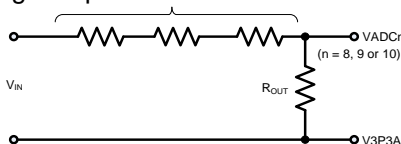
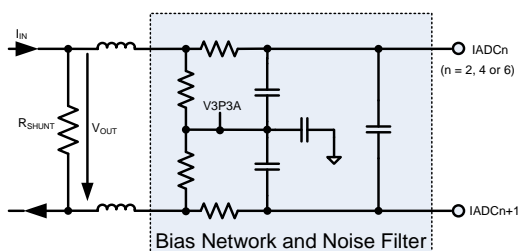
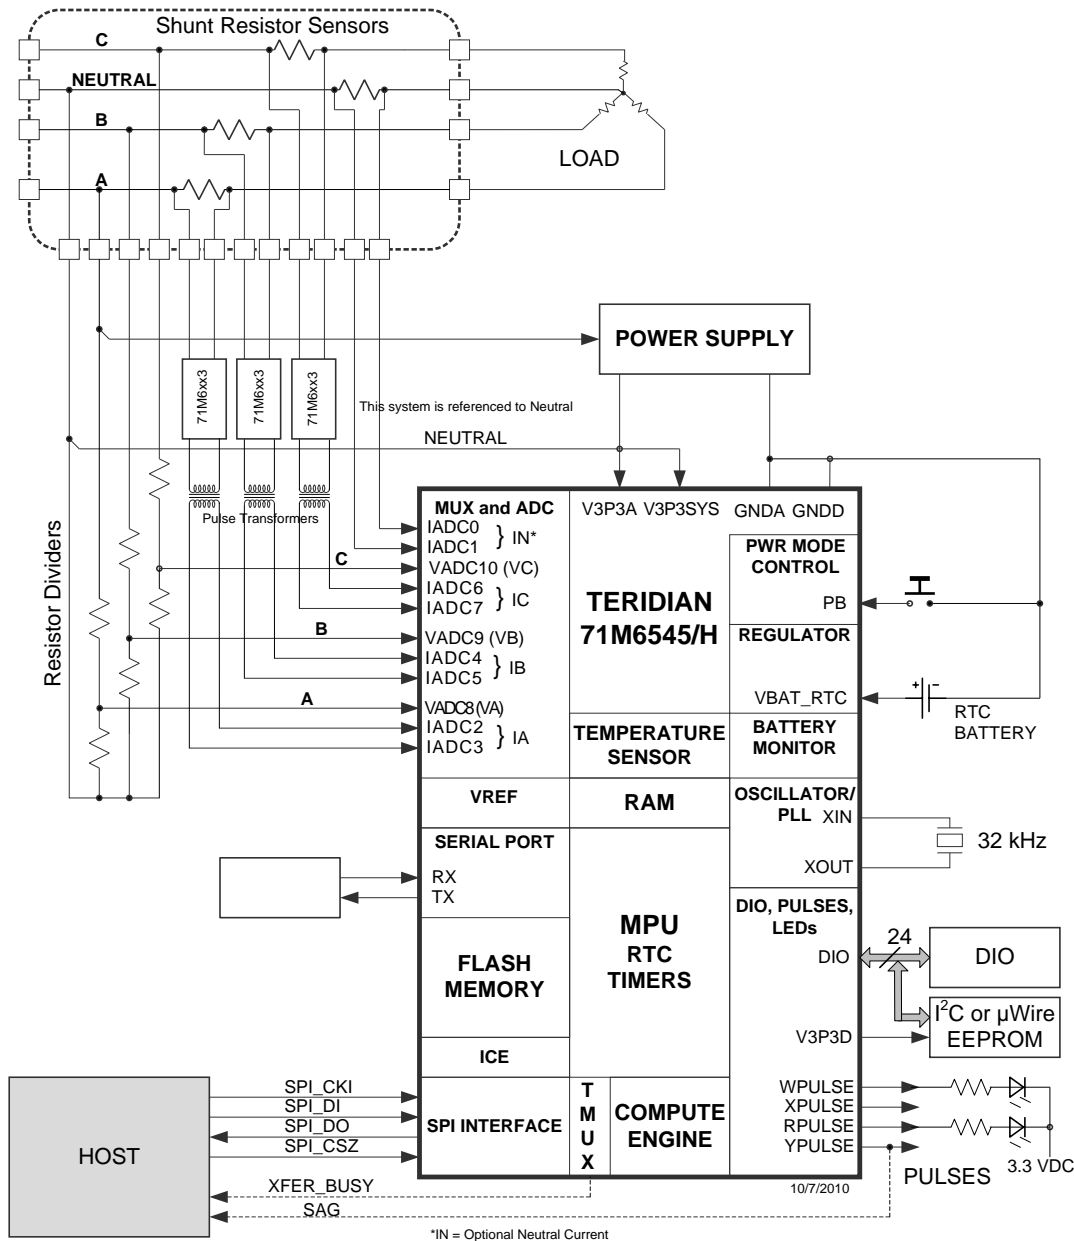
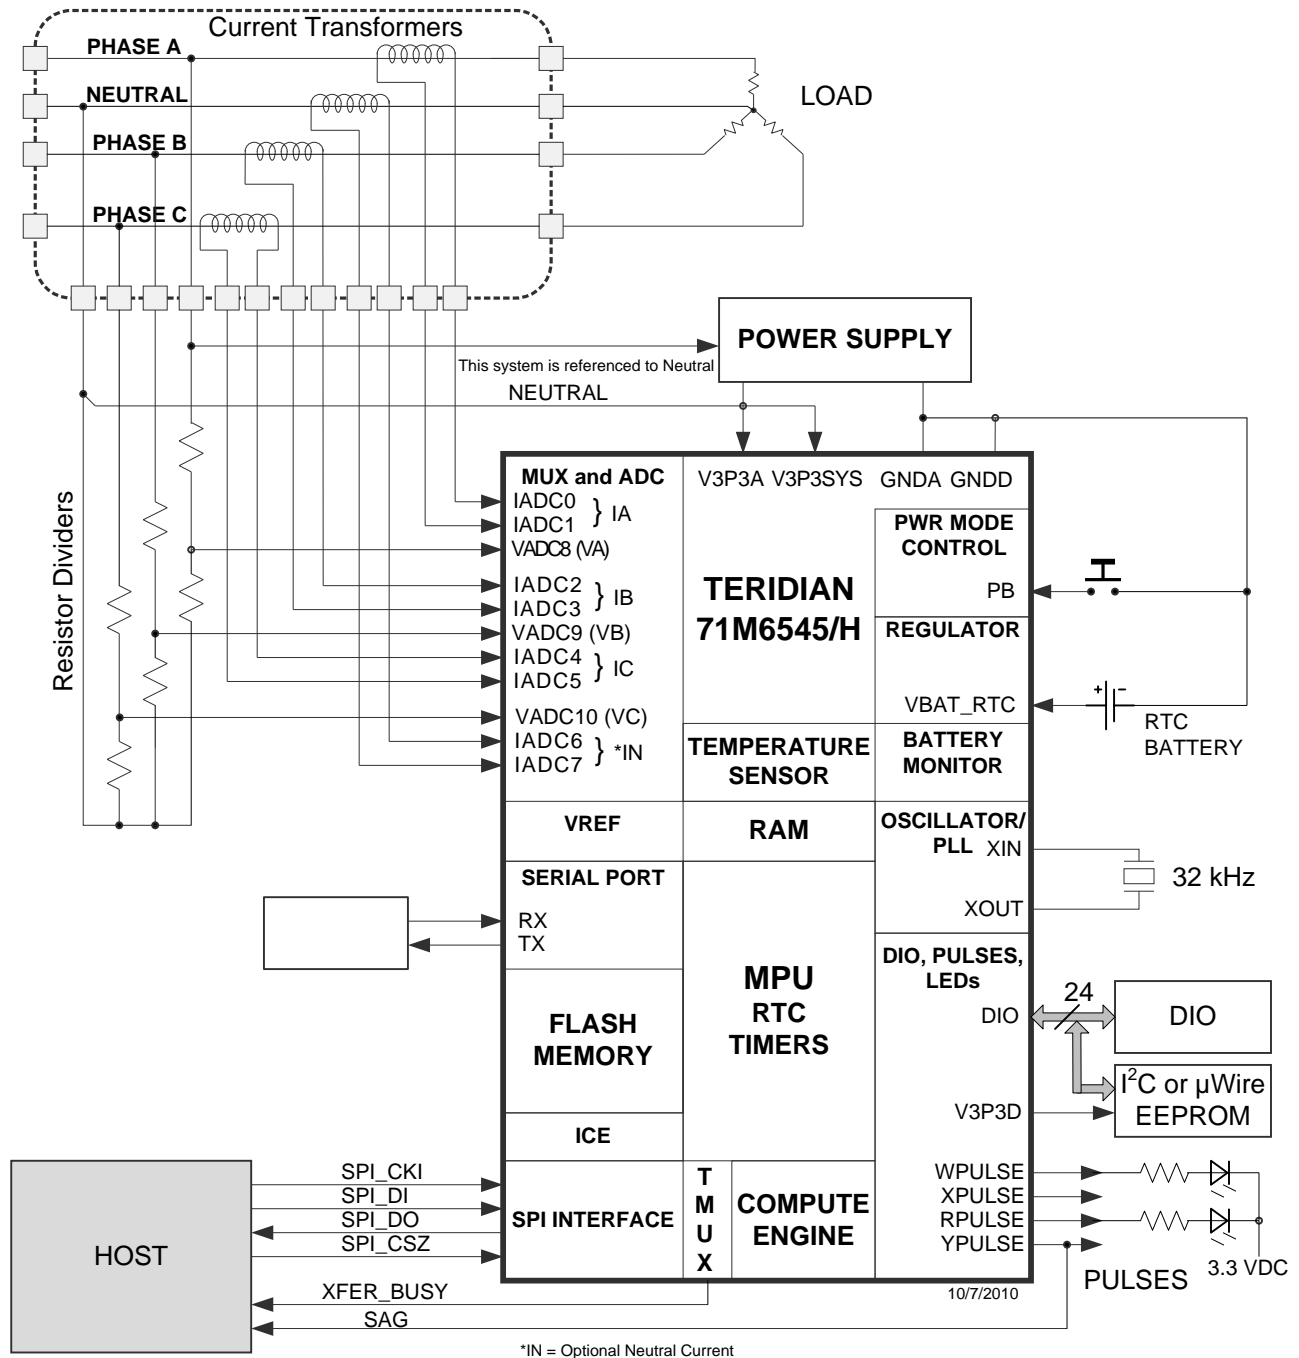

Figure 23: Resistive Voltage Divider (Voltage Sensing)
Figure 26: Differential Resistive Shunt Connections (Current Sensing)
Figure 27: System Using Three-Remotes and One-Local (Neutral) Sensor
Figure 28. System Using Current Transformers
Figure 23 through Figure 26 show voltage-sensing resistive dividers, current-sensing current transformers (CTs) and current-sensing resistive shunts and how they are connected to the voltage and current inputs of the 71M6545/H. All input signals to the 71M6545/H sensor inputs are voltage signals providing a scaled representation of either a sensed voltage or current.
Figure 27 shows a typical connection for current shunt sensors; using the 71M6xx3 (poly-phase) isolated sensors. Note that one shunt current sensor is connected without isolation, which is the neutral current sensor in this example (connected to pins IADC0-IADC1). Each 71M6xx3 device is electrically isolated by a low-cost pulse transformer. The 71M6545/H current sensor inputs must be configured for remote sensor communications, as described in 2.2.8. Flexible remapping using the I/O RAM registers *MUXn_SEL[3:0]* allows the sequence of analog input pins to be different from the standard configuration (a corresponding CE code must be used). See Figure 2 for the AFE configuration corresponding to Figure 27.
Figure 28 shows a poly-phase system using four current transformers to support optional Neutral current sensing for anti-tamper purposes. The Neutral current sensing CT can be omitted if Neutral current sensing is not required. The system is referenced to Neutral (i.e., the Neutral rail is tied to V3P3A and V3P3SYS).
This section discusses metrology temperature compensation for the meter designs where current shunt sensors are used in conjunction with Teridian's 71M6xx3 remote isolated sensors, as shown in Figure 27.
Referring to Figure 27, the VADC8 (VA), VADC9 (VB) and VADC10 (VC) voltage sensors are always directly connected to the 71M6545/H. Thus, the precision of the voltage sensors is primarily affected by VREF in the 71M6545/H. The temperature coefficient of the resistors used to implement the voltage dividers for the voltage sensors (see Figure 23) determine the behavior of the voltage division ratio with respect to temperature. It is recommended to use resistors with low temperature coefficients, while forming the entire voltage divider using resistors belonging to the same technology family, in order to minimize the temperature dependency of the voltage division ratio. The resistors must also have suitable voltage ratings.
Table 57 shows the five $GAIN_ADJ_x$ equation output storage locations and the voltage or current sensor channels for which they compensate for the 1 Local / 3 Remote configuration shown in Figure 27.
Table 57: GAIN_ADJn Compensation Channels (Figure 2, Figure 27, Table 1)
This section discusses metrology temperature compensation for meter designs where Current Transformer (CT) sensors are used, as shown in Figure 28.
Referring to Figure 28, the VADC8 (VA), VADC9 (VB) and VADC10 (VC) voltage sensors are directly connected to the 71M6545/H. Thus, the precision of the voltage sensors is primarily affected by VREF in the 71M6545/H. The temperature coefficient of the resistors used to implement the voltage dividers for the voltage sensors (see Figure 23) determine the behavior of the voltage division ratio with respect to temperature. It is recommended to use resistors with low temperature coefficients, while forming the entire voltage divider using resistors belonging to the same technology family, in order to minimize the temperature dependency of the voltage division ratio. The resistors must also have suitable voltage ratings.
Table 58: GAIN_ADJx Compensation Channels (Figure 3, Figure 28, Table 2)